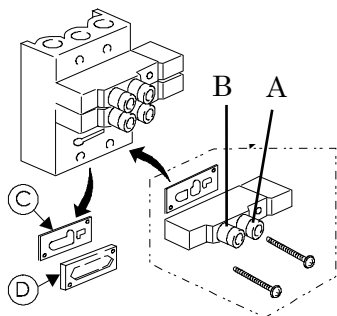

Fig.4
- (1) The 0 to the air pressure by turning the pressure adjustment knob of the filter regulator, and remove any residual pressure.
- (2) Remove the cover of the sewing machine body left side, remove the packing and C blanking plate D from the solenoid valve as shown in Figure 4, install the solenoid valve attached. At this time, attach the packing included with this in order to prevent air leakage.
- (3) Insert to match the symbols A and B of the air tubes to the solenoid valve and the Pneumatic 2-Step Tensioner ,as shown in Figure 4 and 5.
- (4) Secure the sewing machine left air tube using the cable ties of accessory.
- (2) Remove the packing and C blanking plate D from the solenoid valve as shown in Figure 4, install the solenoid valve attached. At this time, attach the packing included with this in order to prevent air leakage.
- (3) Insert to match the symbols A and B of the air tubes to the solenoid valve and the Pneumatic 2-Step Tensioner ,as shown in Figure 4 and 6.